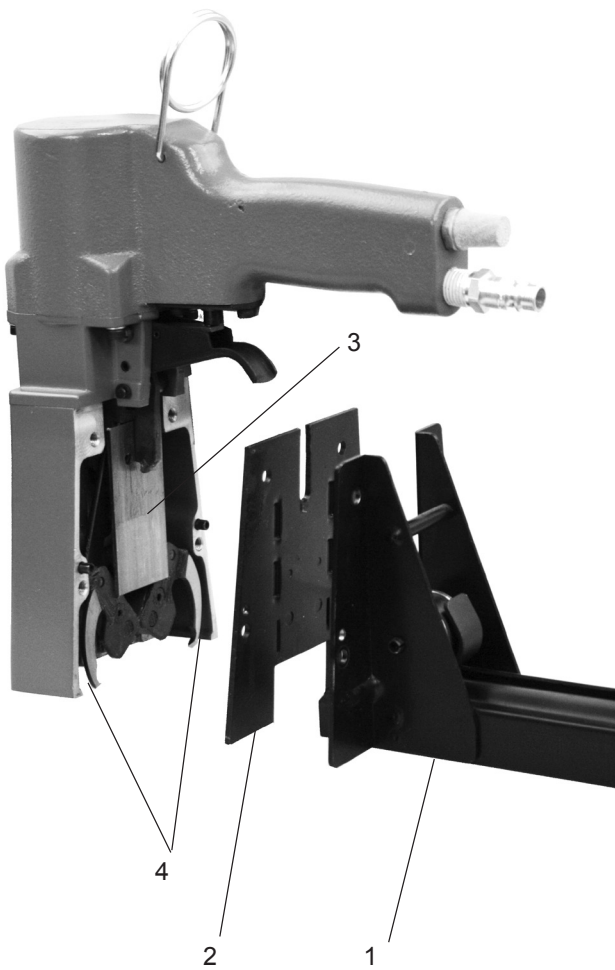

Fig. 11
- Remove the magazine (Fig. 11/1) and the back plate (11/2).